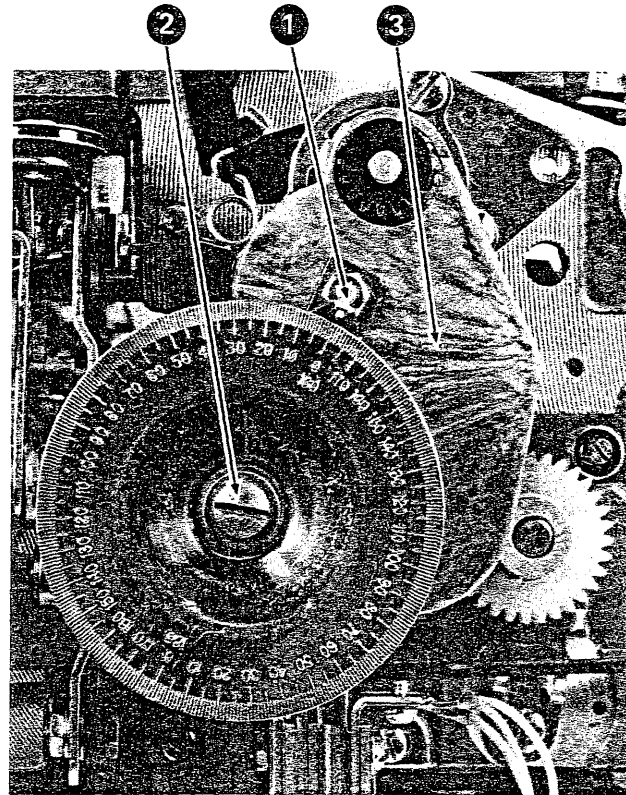

Figure 4-1. Cycle-Clutch and Cycle-Shaft Removal (Steps 1-6)
3. Remove the degree-wheel pointer (No. 1, Figure 4-1).
4. Remove the degree wheel (No. 2, Figure 4-1).
5. Remove the gear guard (No. 3, Figure 4-1).